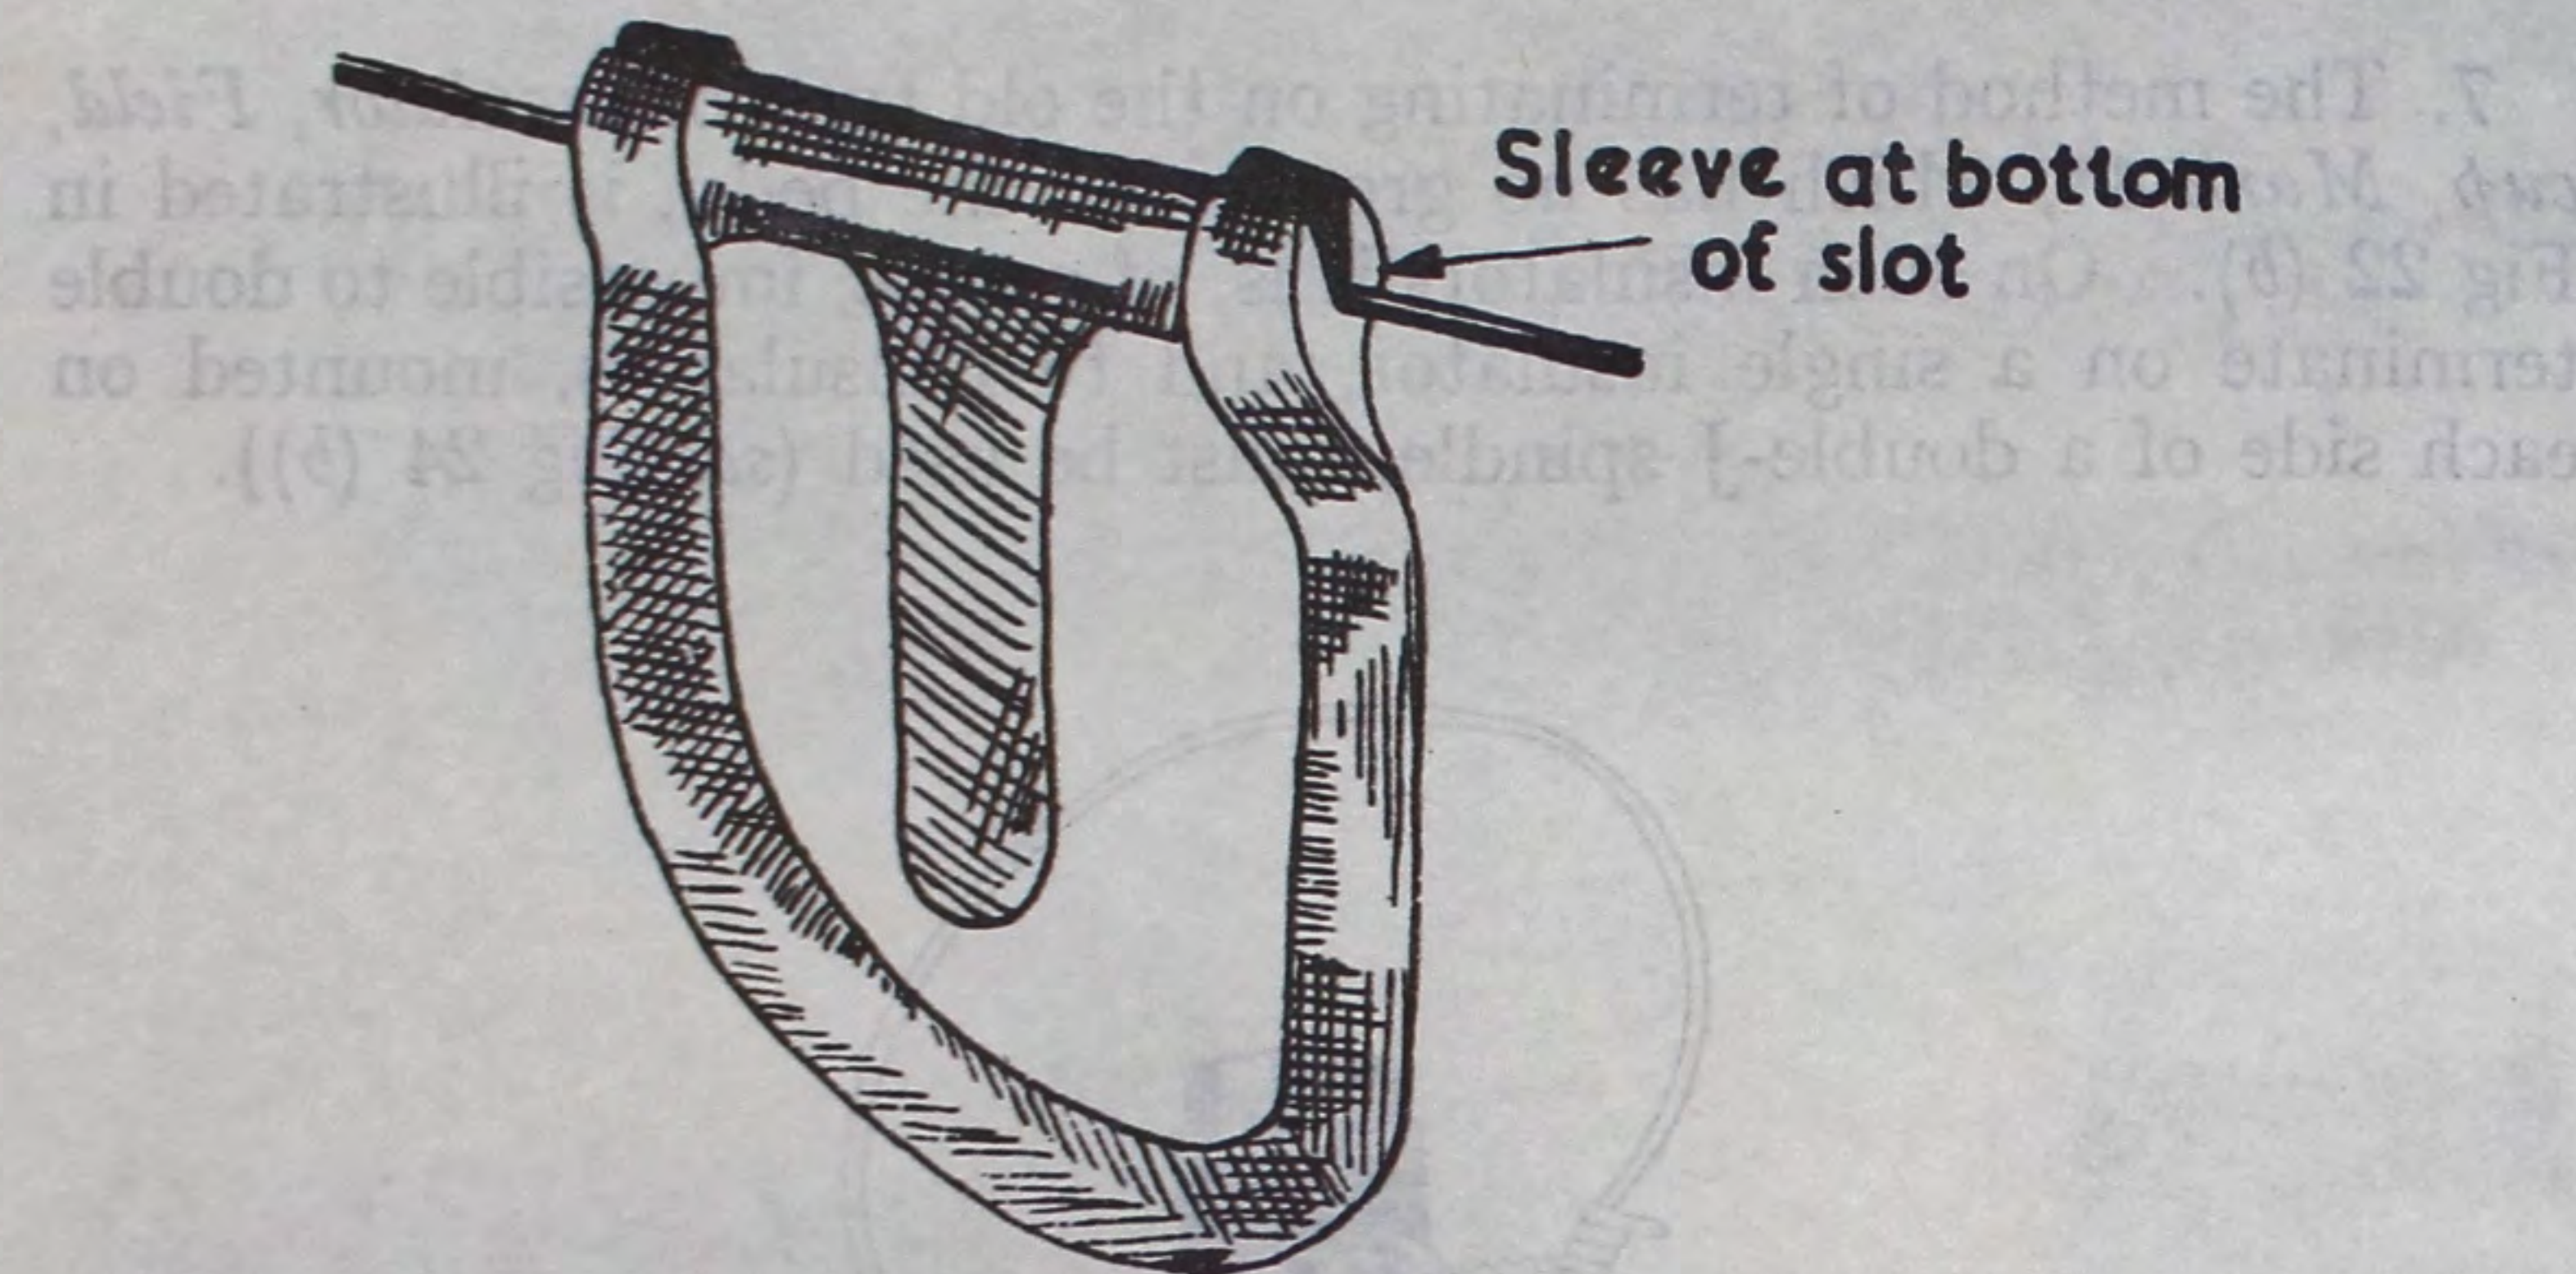

Fig 25.—Tool, jointing, centre twist, 70-lb
3. Through joints and nib joints are made with *sleeves, jointing WD pattern, No. 1* using a *tool, jointing, centre twist, 70 lb* (see Fig 25).